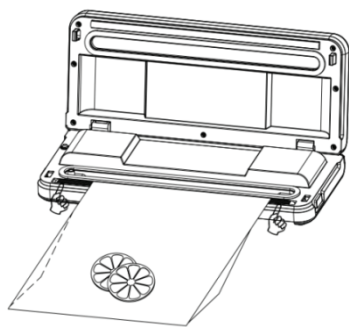

Figure 6
1. Open the upper lid, put the open end of the bag in the yellow heated strip of the appliance, and ensure that the bag is airtight and both sides of the open end of the bag align (as shown in Figure 6);